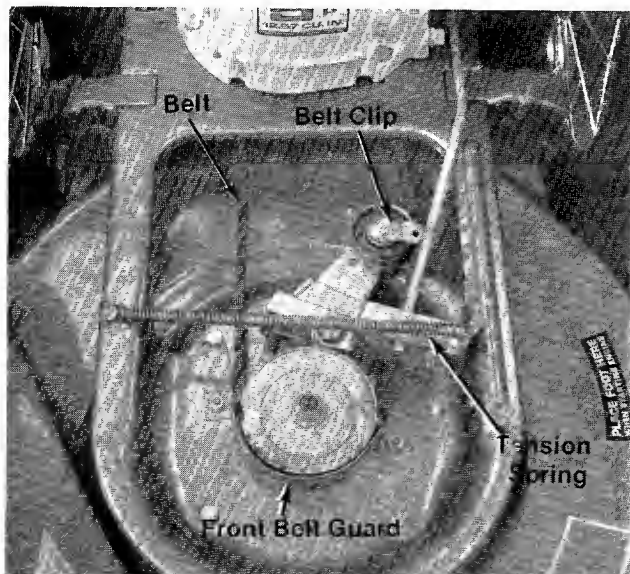

FIGURE 21
1. Remove the blade spindle cover. (See figures 21 and 22.)
15. Position the belt clip on the idler pulley to clear the tightened belt. Secure the belt clip in position with the nut. (See figure 21.)